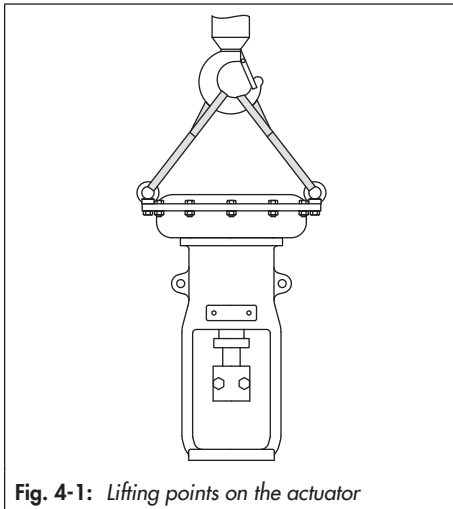

Fig. 4-1: Lifting points on the actuator
- Use a hook with safety latch to secure the slings from slipping off the hook during lifting and transporting (see Fig. 4-1).
See Fig. 4-1